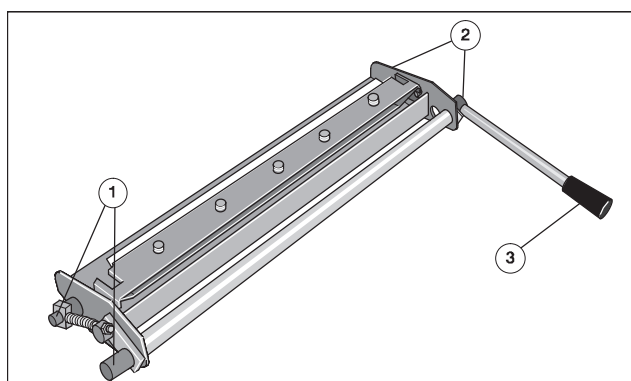

Fig. 79 PU 2: inking roller washup device
5. Insert the inking roller washup device with the pins on O.S. (Fig. 79/1) and D.S. (Fig. 79/2) in the corresponding guides.
7. Gently press lever (Fig. 79/3) upwards for insertion.